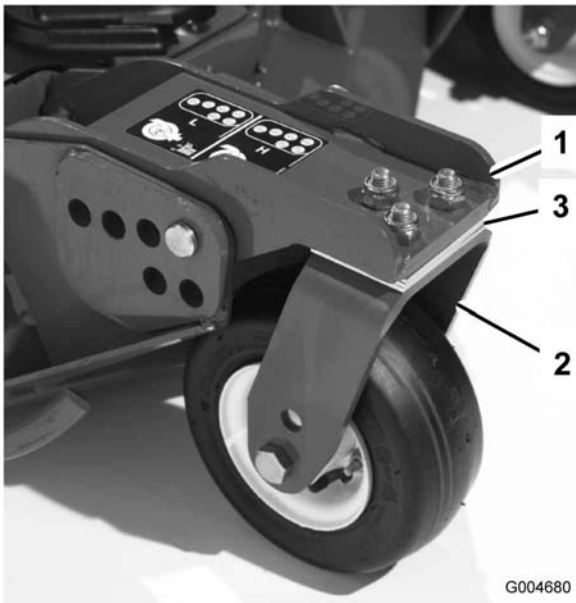

Figure 27
Rotate blade of each spindle until the ends face forward and backward. Measure from the floor to the front tip of the cutting edge. Adjust 1/8 inch shims on front castor arm(s) to match height of cut to decal (Figure 27). For the outside blade spindle only, refer to Adjusting the Cutting Unit Pitch procedure in , page .
3. If the inside edge of the side cutting unit is too high relative to the outside edge of the front cutting unit, remove one 1/8 inch shim from the bottom of the front inside castor arm on the side cutting unit (Figure 27). Recheck measurement between outside edges of both side cutting units and inside